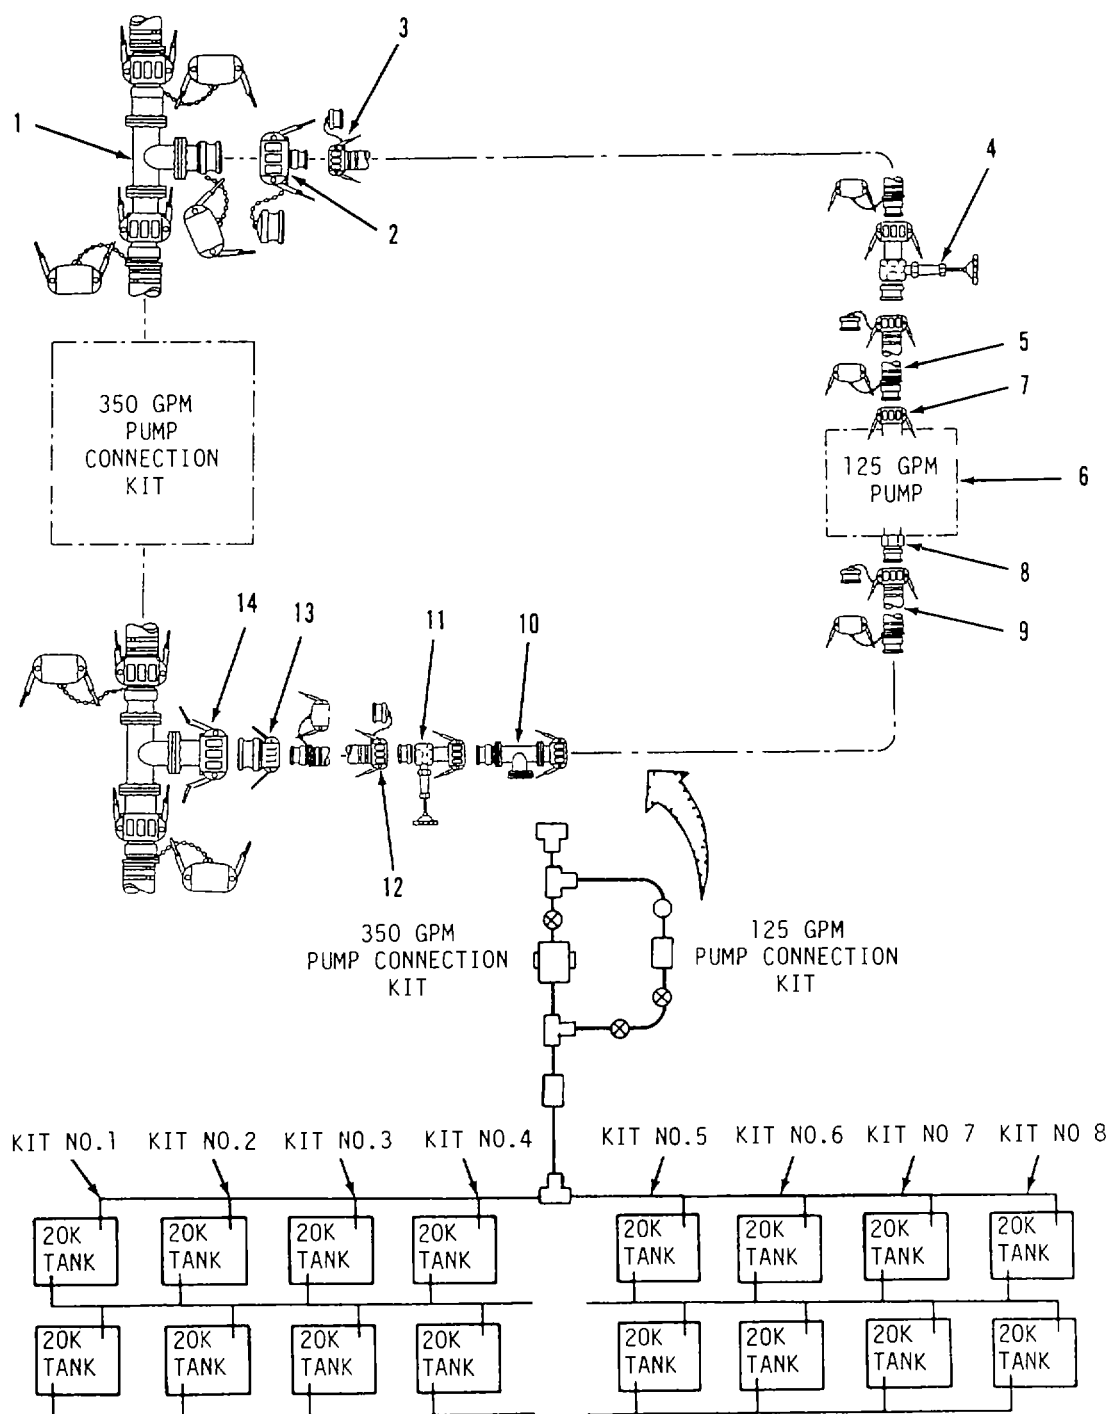

Figure 2-16. 125 Gpm Pump Connection Kit Assembly (Water Source).
- i. Assemble 125 GPM Pump Assembly Connection Kit (Water Source). Refer to figure 2-16.